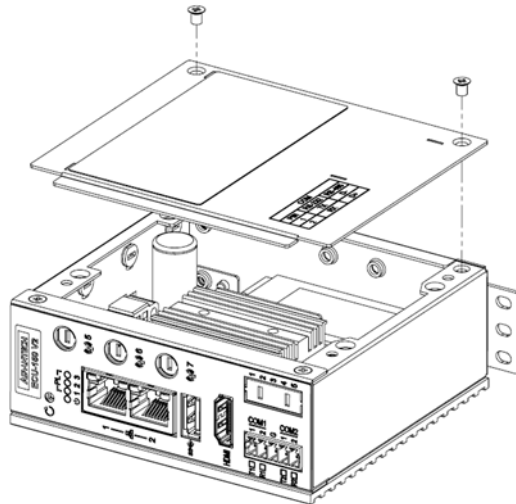

Figure 4.1 Unscrew the side plate to open the enclosure
1. Unscrew the side plate and open the enclosure, same as shown in Figure 4.1.